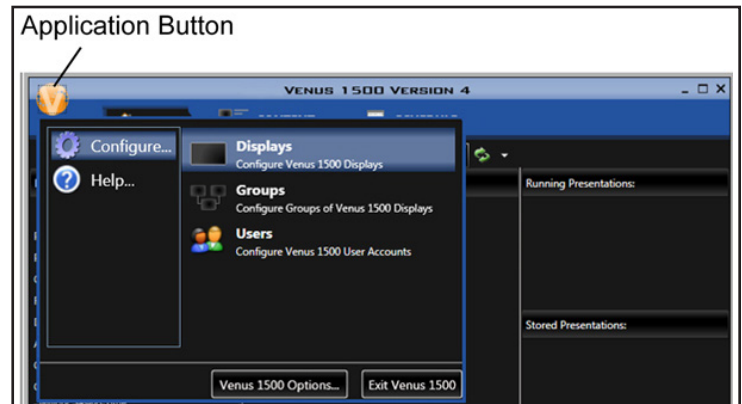

Figure 15: Begin Display Configuration
2. Click the **Application** button, highlight **Configure**, click **Displays**, as shown in **Figure 15**.